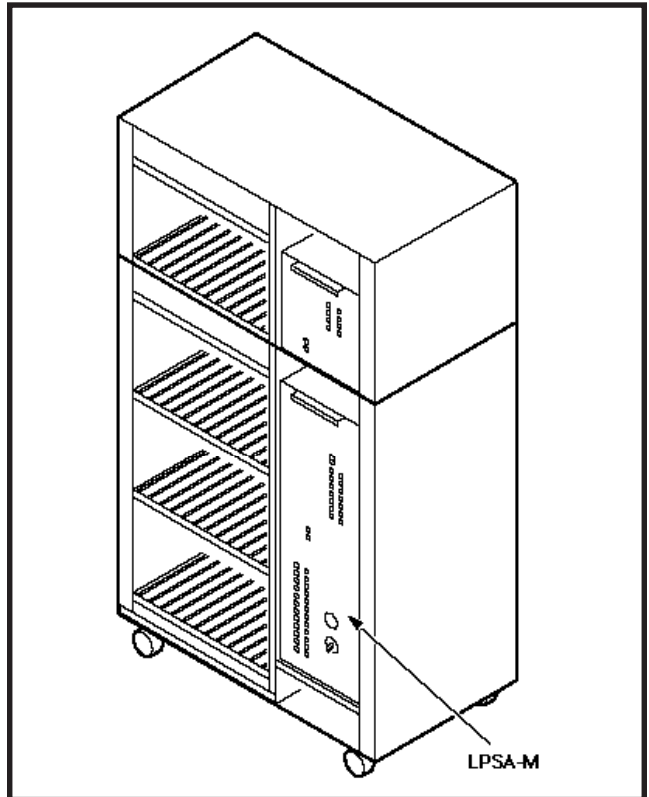

FIGURE 2-5—PERCEPTIONex MAIN POWER SUPPLY
**2.21** The Main Power Supply (LPSA-M) consists of a single metal chassis which contains the system ring generator and charger/inverter for the Reserve Power. A circuit breaker switch, LED indicators, AC power indicator and system power switch are located on the front of the chassis. For ease in installation a handle is located at the top front of the power supply (Figure 2-5).